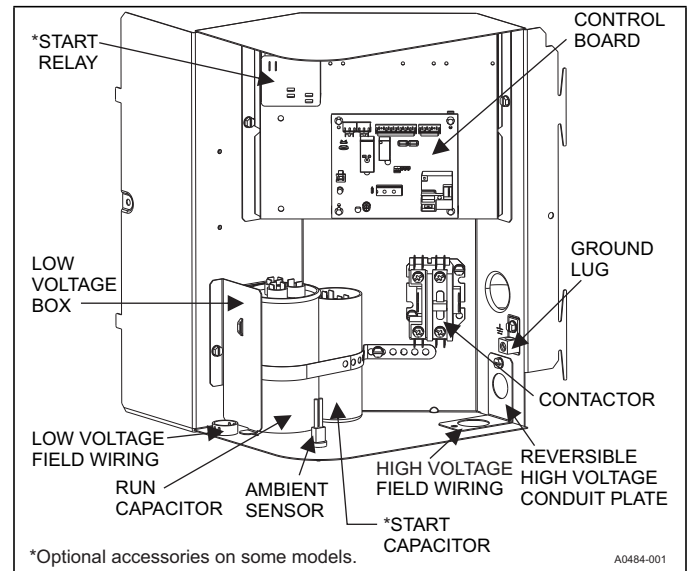
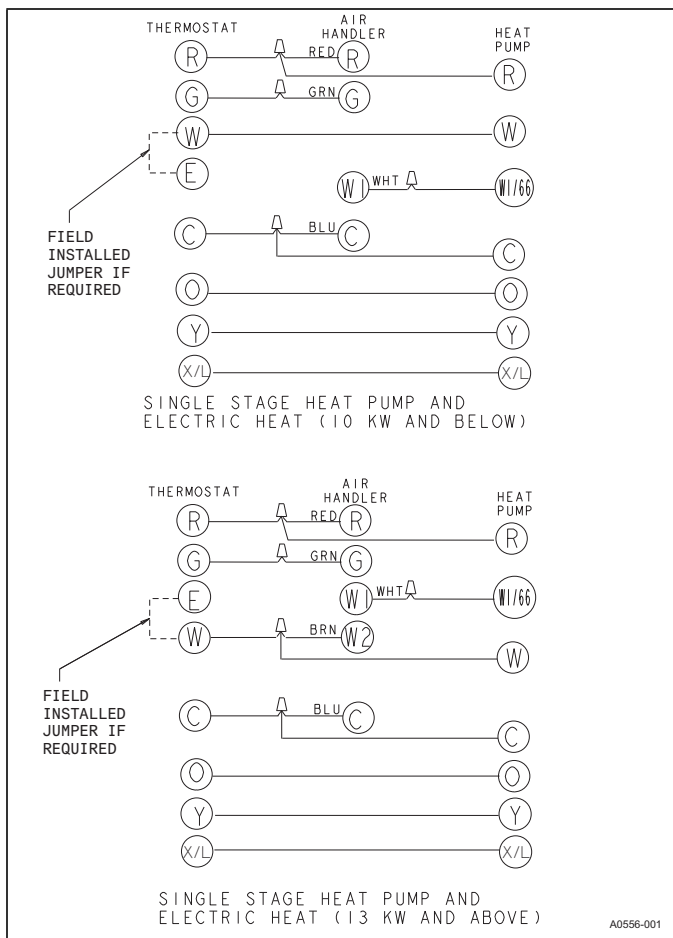

FIGURE 9: Outdoor Unit Control Box (208/230V Single Phase)
FIGURE 11: Typical Field Wiring (Air Handler / Electrical Heat) (Single and Three-Phase)
4. Route wires from disconnect through power wiring exit provided and into the unit control box as shown in Figures 9 & 10.
1. Route low voltage wiring into bottom of control box as shown in Figure 9 or 10. Make low voltage wiring connections inside the low voltage box per Figure 11.